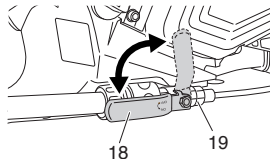

Fig. 18
5. Running water into the hose, turn the lever (18) of valve (19). (Fig. 18) This will supply to the cut-off wheel.